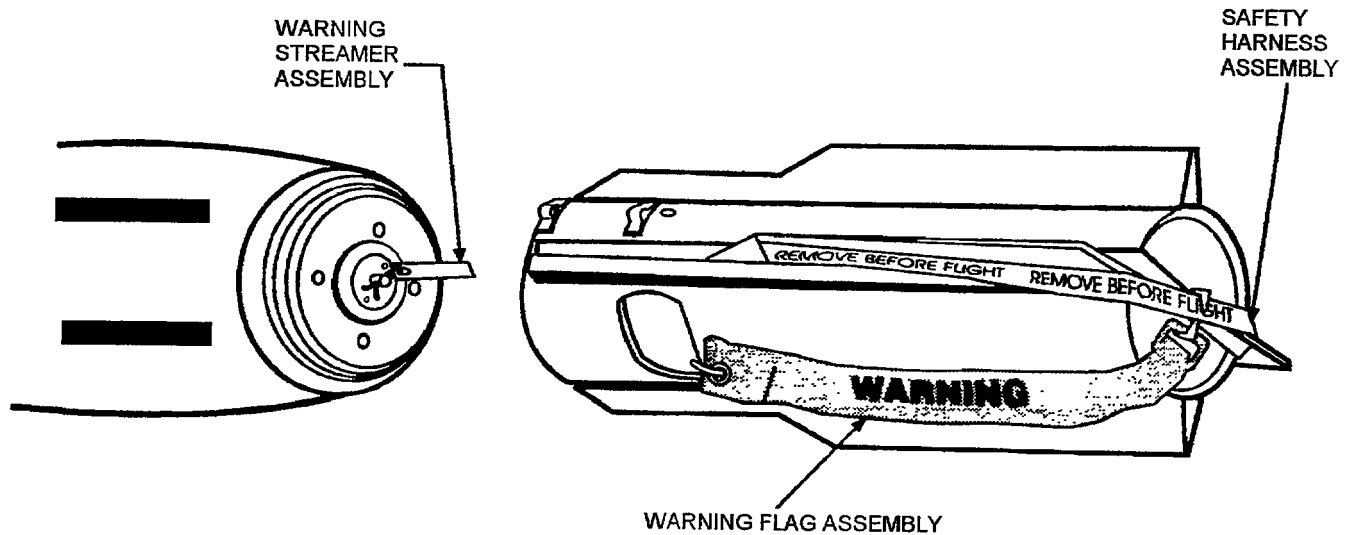

Figure 4-13C. Tail Section Mk 16 Installation
- For F/A-18 Aircraft: Position tail section near aft end of bomb (Figure 4-13C). Orient the tail so the index pin on the tail section aligns with the topmost (12 o'clock) index pin hole on the bomb.
- f. For B-1 and B-2 Aircraft: Position tail section near aft end of bomb (Figure 4-13C). Orient the tail so the index pin on the tail section aligns with the second index pin hole on the bomb.